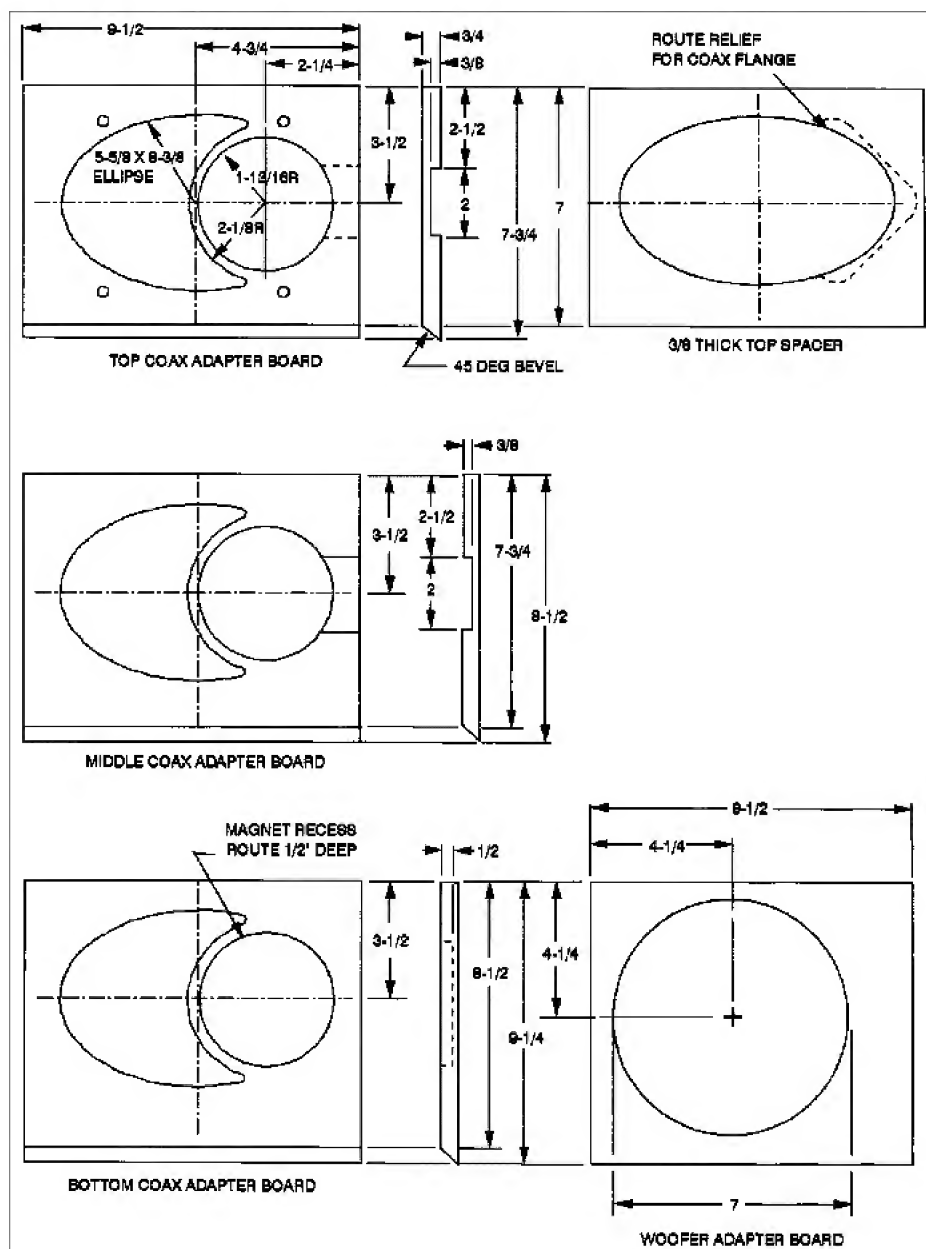

Figure 2-2 Sedan triax adapter details.
The triaxes are built on a series of adapter boards which couple the various drivers to the passenger compartment through the single opening. Figure 2-2 shows the details. While it appears to be complex, each piece taken separately is not.
5. Referring to Figure 2-2, locate the triax center on each of the top four boards by drawing a horizontal line $3\frac{1}{2}$ in from the top edge and a vertical line in the center. For the $9\frac{1}{2}$ -in-wide set, this is $4\frac{3}{4}$ in.
8. Using a compass, draw a 3 $\frac{5}{8}$ -in circle centered 2 $\frac{1}{4}$ in from one end of the board as shown in Figure 2-2. (*Note:* Be sure not to oversize the hole as the JVC coax flange is very narrow in places.) Next draw the 2 $\frac{1}{2}$ -in arc that defines the outer wall of the coax partition.
13. Turning to the $\frac{3}{8}$ -in-thick top spacer board, cut out the 5 $\frac{1}{2}$ - by 8 $\frac{3}{8}$ -in oval opening. Place the coax facedown on this board in the same position and orientation as it will be on the adapter board. Carefully trace its outline with a pencil. Recess the marked area indicated in Figure 2-2 the minimum amount needed to fit the coax flange and provide a flat sealing surface with the coax adapter board. A router is a handy tool to use for this operation; however, a sharp router bit in an electric drill and a steady hand does a pretty fair job here also.